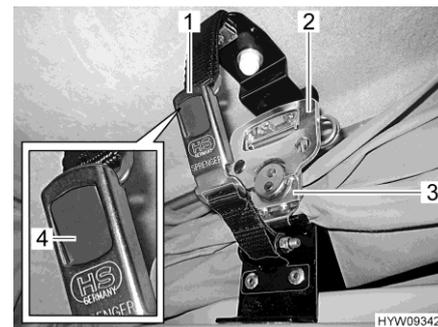

Fig. 81 Lock (elevating roof)
- Open the snap lock (Fig. 81,1) on both sides. In order to do this, press the grey push button (Fig. 81,4).
- On each side, fold out the handle (Fig. 81,2) of the quick-action turn-buckle (Fig. 81,3) and turn half a turn in an anticlockwise direction. Thus, the lock is released.